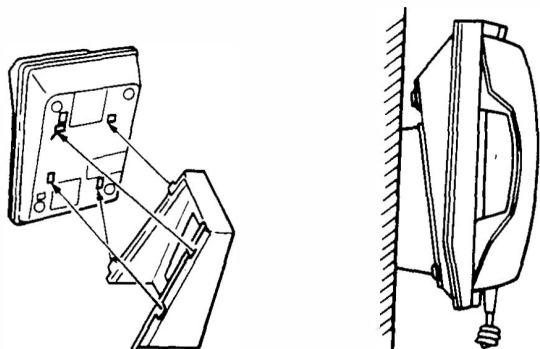

Figure 200-61 Mounting the Key Telephone to the WMU-Z Unit
5. Mount the telephone onto the wall mounting unit by aligning the notches on the bottom of the Key Telephone with the rails on the wall mounting unit, as shown in Figure 200-61 Mounting the Key Telephone to the WMU-Z Unit.